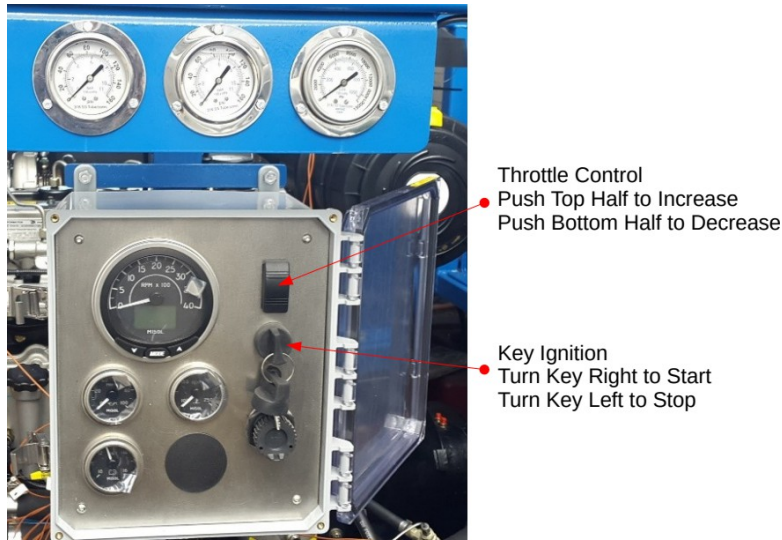

Figure 5.1 – Engine Shut-Down and Throttle Control
7. Throttle the engine completely up using the throttle control (See **Figure 5.1**).
1. Engage the pressure pump by moving the PTO lever (See **Figure 2.3**) to the “ON” position to engage the clutch. Push in the red knob on the control panel (See figure 5.1), press the upper half of the throttle control until the desired engine speed is reached.
1. Adjust the engine speed to idle by pushing on the bottom half of the throttle control (See **Figure 5.1**).
3. Shut off the engine by turning the ignition key on the control panel to the “OFF” position (See **Figure 5.1**).